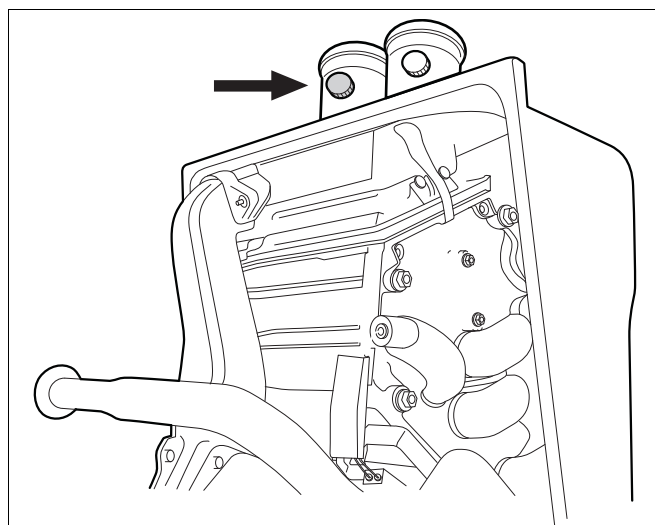

fig. 61 Flue gas sampling point
- Measure the carbon monoxide content on the flue gas sampling point (see fig. 61).